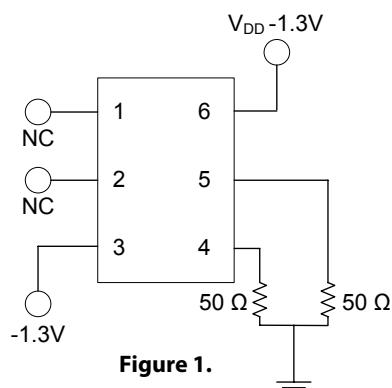
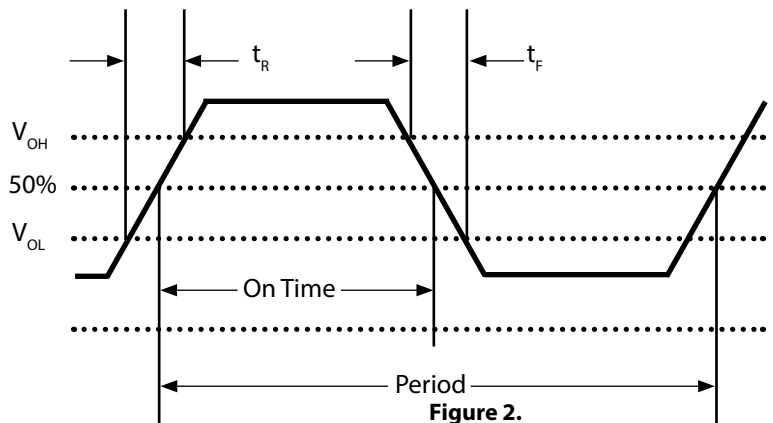
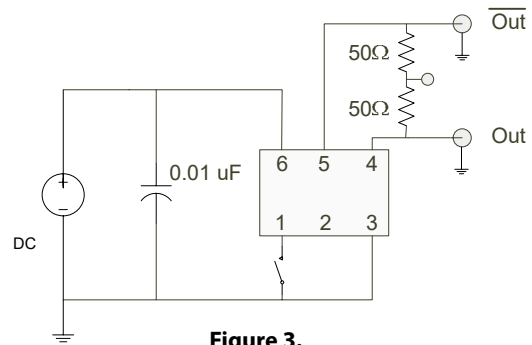

Figure 1.
Figure 2.
Figure 3.
4. Figure 1 defines the test circuit and Figure 2 defines these parameters.
4. Figure 2 defines these parameters and Figure 3 defines the test circuit.